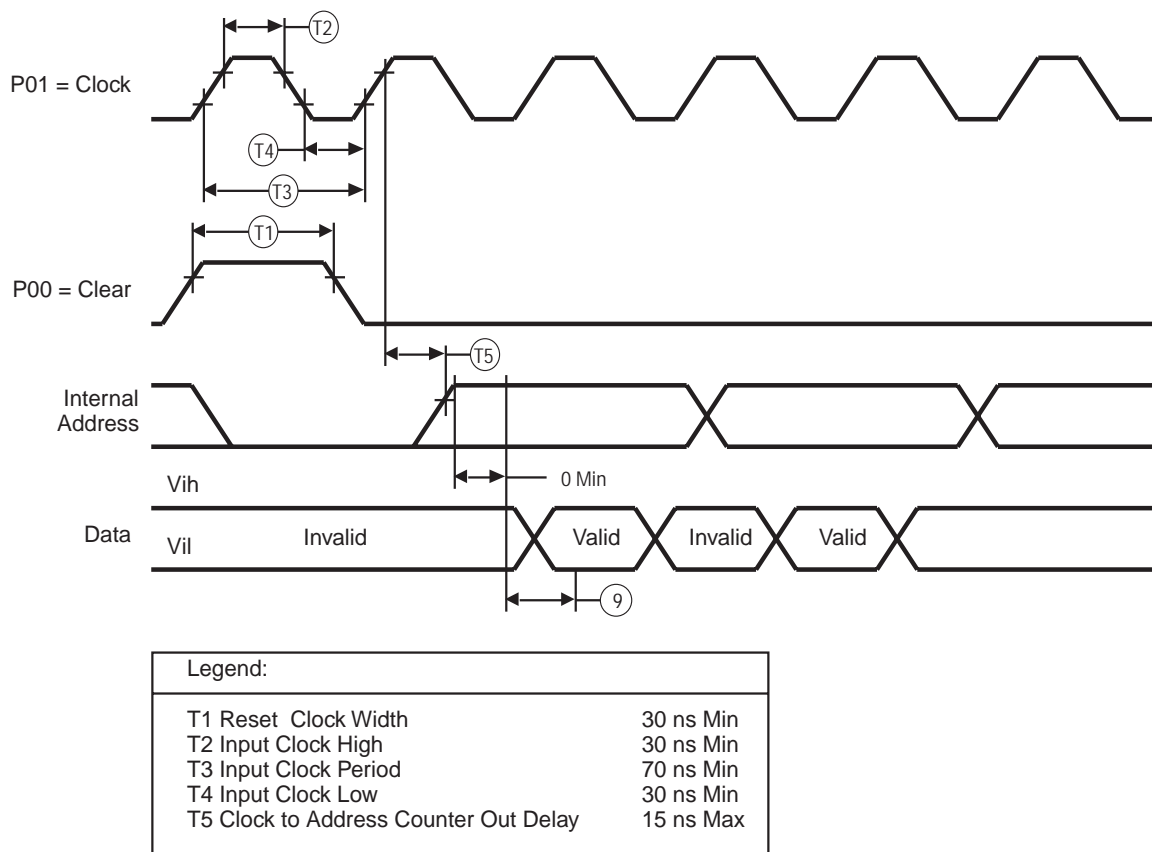

Figure 19. Z86E02 Address Counter Waveform
**Internal Address Counter.** The address of Z86E02 is generated internally with a counter clocked through pin P01 (Clock). Each clock signal increases the address by one and the "high" level of pin P00 (Clear) will reset the address to zero. Figure 19 shows the setup time of the serial address input.